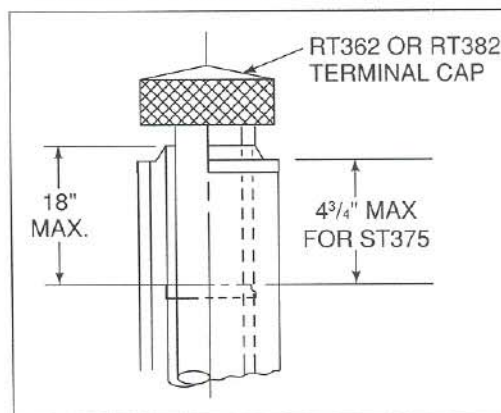

Figure 19
2. Install the Chimney Sections up through the chase. When using a Round Terminal Cap (RT364, RT364S or RT384), the last section of Pipe must extend above the Chase Top to allow installation of the Storm Collar and Terminal Cap. For installations utilizing a Telescoping Round Terminal Cap (RT362 or RT382) or Telescoping Square Terminal Cap (ST376), the last Chimney Section must be below the top of the Chase Top, but not more than 18" below the Chase Top. For installations utilizing a Square Terminal Cap (ST375), the last Chimney Section must not be more than 4 3/4" below the base of the Chase Top. See Figure 19.